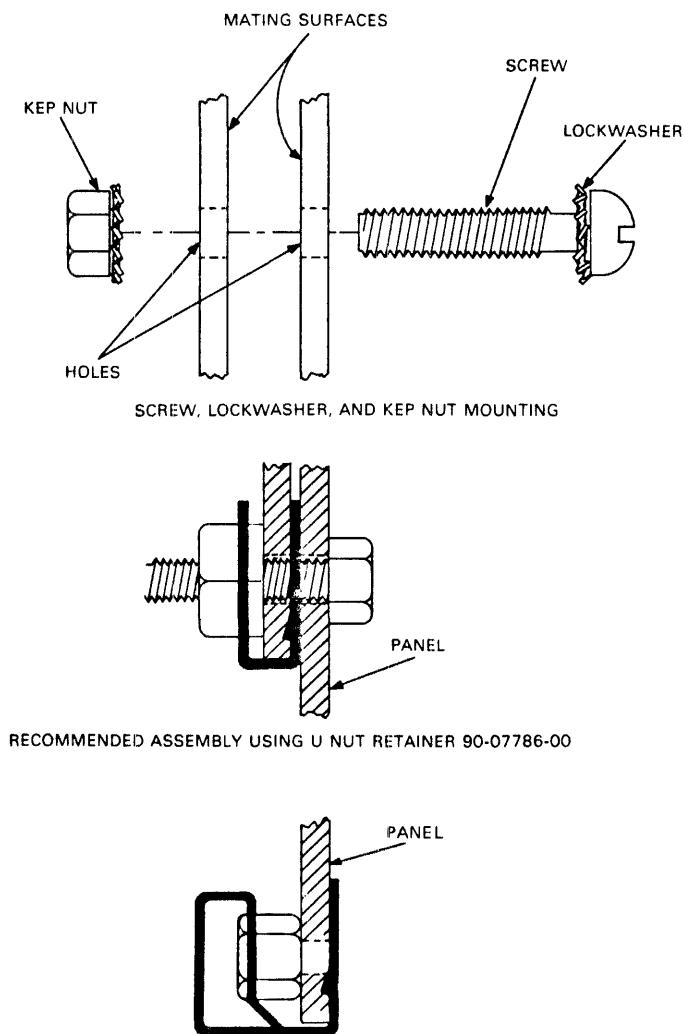

Figure 6-1 Power Controller Mounting Hardware
**6.2.3.2 Power Controller Mounting** – The power controller must be mounted to the system frame with hardware that ensures a good electrical connection. Because either or both of the mating surfaces may be painted, the mounting hardware must provide that bond. A machine screw, lockwasher, and kep nut combination (Figure 6-1) is acceptable. A U nut retainer (90-07786-00) is also recommended for this purpose. Note that the U nut retainer should be used only once, since the sharp tabs are bent or dulled by the first use. Do not use the -01 variant of the U nut retainer, since it does not have the necessary “digging” characteristics.